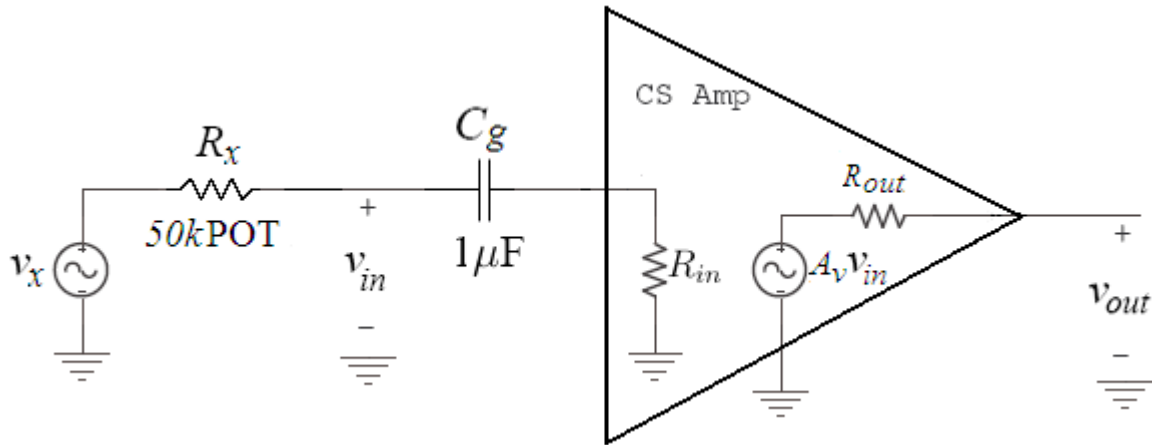

Figure6
4. Measure the input impedance R_{in} . To do this, use the setup shown in the circuit diagram in Fig.6. Use the original input signal from the function generator ($v_x=50\text{mVp-p}$ @ 1kHz). Measure the value of v_{in} . Set up an equation relating v_x and v_{in} . Use that equation to solve for the value of the AC input impedance R_{in} .